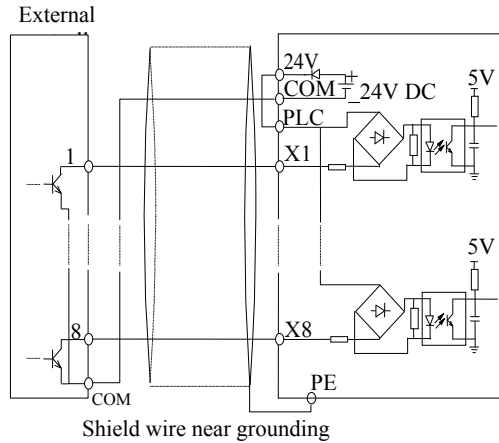

Fig 2-21 Method 2 of connections (a)
- 1) Inverter's internal +24 V power supply is used and the external controller uses NPN transistors whose common emitters are connected, as shown in Figure 2-21.